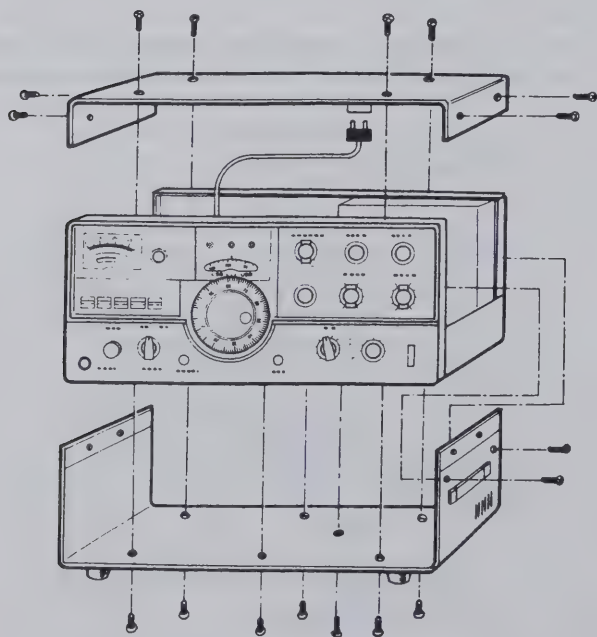

Fig. 28 Removing the TS-520S's Case
■ REMOVING THE CABINET (See Figure 28)
Figure 28 shows how to remove the TS-520S's cabinet. Remove the eight top cover screws and the nine bottom cover screws and lift away the panels. The speaker leads will still be attached to the chassis so be careful when removing the top cover. The leads can be unplugged, if necessary.